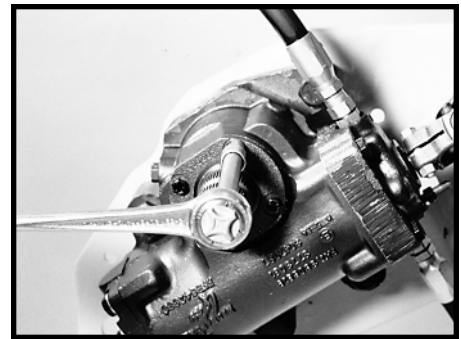
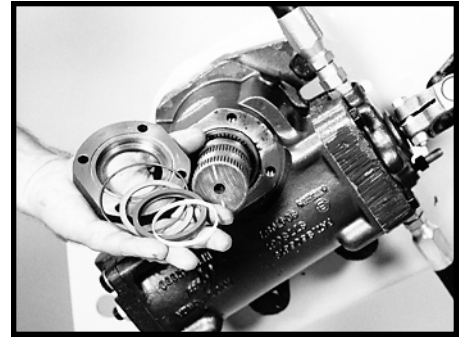

Figure 9
Figure 10
1.4 Next, remove the four trunnion cover bolts (28), and trunnion cover (26). SEE FIGURE 9. A 1/2 inch socket required. Be prepared for fluid loss. Then remove and discard the sector shaft seal package consisting of the two-piece sector shaft seal (23), the *Teflon backup washer (24), and the trunnion cover seal ring (25). SEE FIGURE 10.